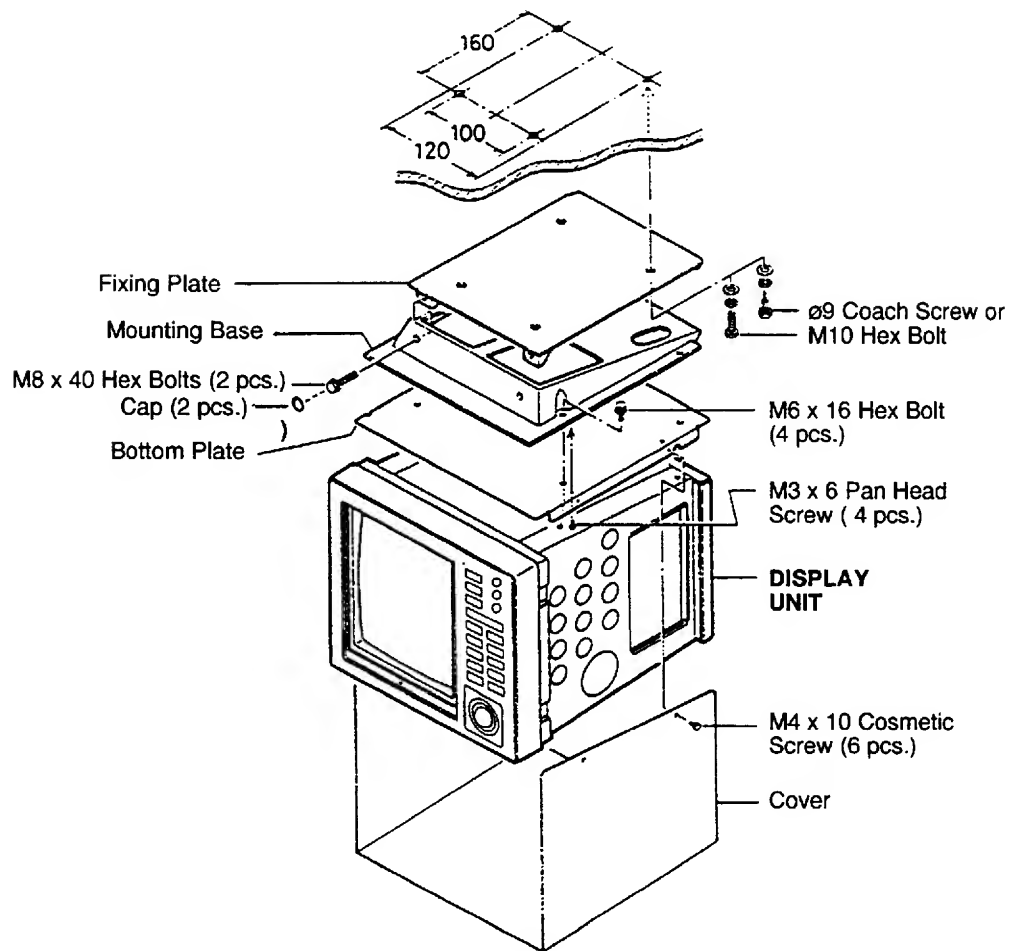

Figure 5-9 Display unit bulkhead or overhead mounting
- 1) Referring to Figure 5-9, change the location of the fixing plate, mounting base, bottom plate and cover.